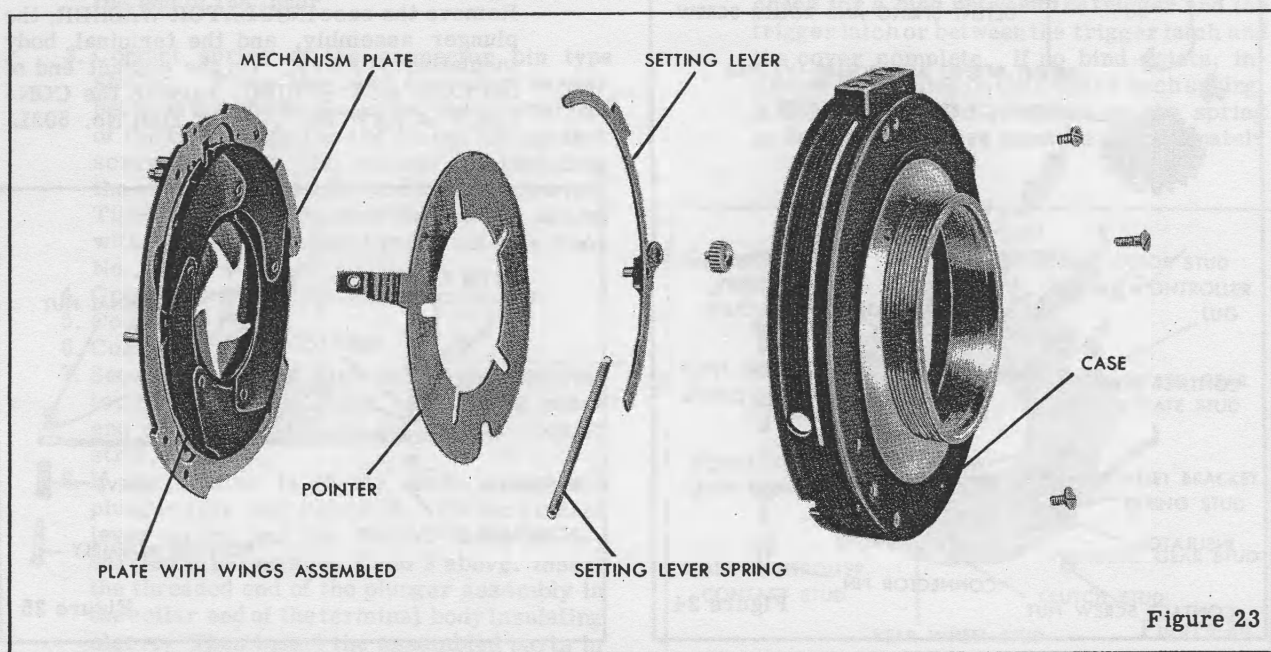

Figure 23
1. Apply a thin film of grease (Texaco Unitemp-RCX169 Grease) in the slot on the main drive assembly where it engages the stop stud on the SETTING LEVER, figure 23; on the MAIN DRIVE STUD, figure 26; on the LATCH, figure 7, at the point of contact with the LATCH SPRING, and on the latch where it contacts the RETARDING SECTOR STUD, figure 26. This area of the latch should be burnished before applying the lubricant.
9. Trip the shutter and at the same time retard its opening action by placing one finger against the shutter SETTING LEVER, figure 23. Observe whether the BLADE CONTROLLER CONTACT STUD, figure 26, makes slight contact with the contact spring just before the blades are fully open. If the spring does not touch the stud, bend the end of the spring toward the stud.
11. MECHANISM PLATE, figure 23.
8. The shutter CASE, figure 23, diaphragm POINTER and the SETTING LEVER should be thoroughly cleaned. Apply a thin film of grease (Texaco Unitemp-RCX169 Grease) in the recess in the case occupied by the setting lever. Then wipe this area lightly with a clean cloth.